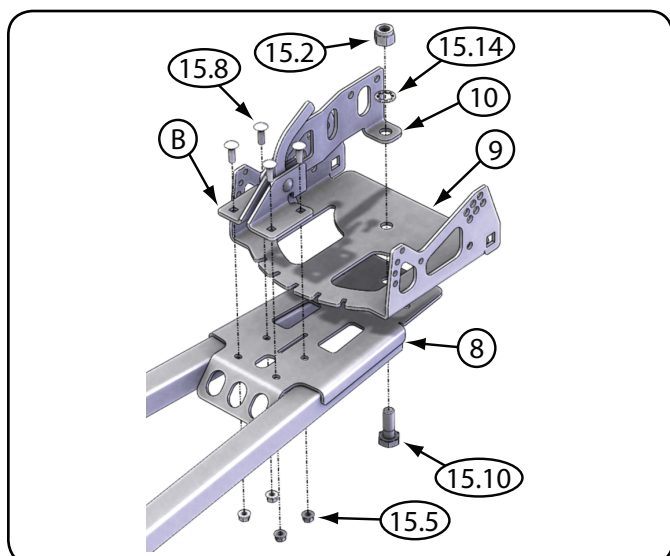

Figure 5 - Angle Plate and Angle Lever Assembly Install
2. Install angle lever assembly (B) to the tube weldment (8) as shown in Figure 5. Use the $\frac{5}{16} \times 1$ in. (7.9 × 25.4 mm) standard carriage bolts (15.8) and $\frac{5}{16}$ in. (7.9 mm) nuts (15.5) to secure the left and right handle plates. Tighten down bolts.
3. Secure the pivot plate (9) to the tube weldment (8) and hook plate (10) using the $\frac{5}{8} \times 1\frac{3}{4}$ in. (15.9 × 44.5 mm) structural bolt (15.10), $\frac{5}{8}$ in. (15.9 mm) lock washer (15.14) and $\frac{5}{8}$ in. (15.9 mm) lock nut (15.2) as shown in Figure 5. **Tighten down nut and bolt so that the plate will pivot with ease but is not loose.**